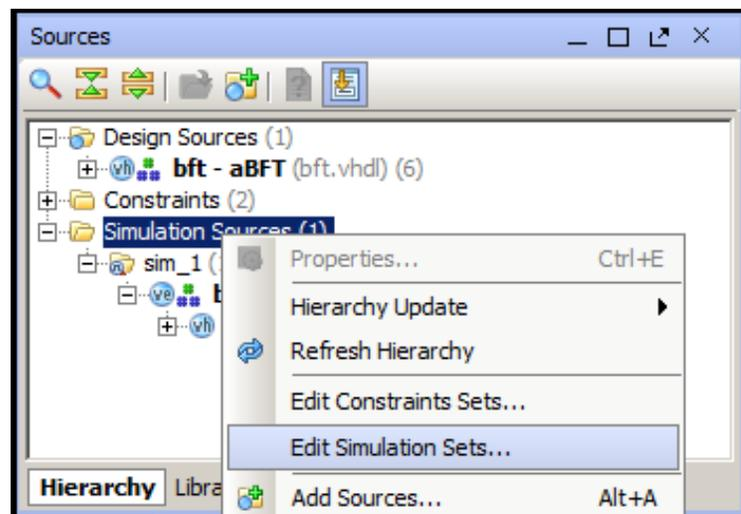

Figure 8-4: Edit Simulation Sets Option
1. In the Sources window popup menu, select **Simulation Sources > Edit Simulation Sets**, as shown in Figure 8-4.